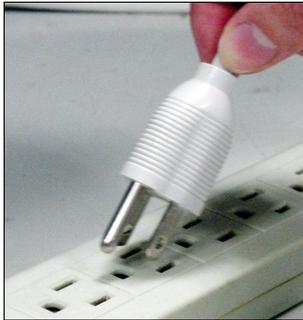

Figure 1:
2. Whenever CPU is not installed, always protect your CPU socket pin with the plastic cap covered (shown in Figure 1) to avoid damaging.
Unplug the AC power cable (shown in figure 1) or unplug the power connectors (shown in figure 2 & figure 3) before the 1st installation or during system upgrade procedure.